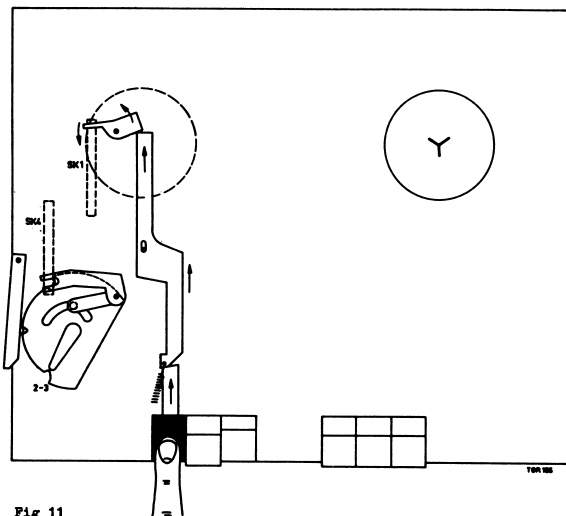

Fig 11
- N.B. The control cam of bracket 1 can move into the slot of switch disc 9 (see fig. 11) By turning the switch disc the control bracket 1 will put the switch SK4 in the required position. The switch has three positions, viz :